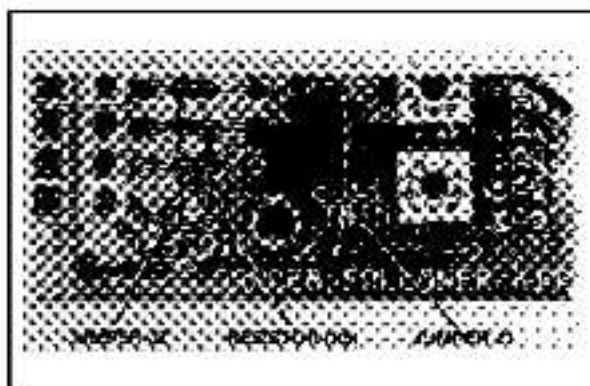

Figure 4 – Jumpers J1, J2 and Resistor (R6) on Dancer Follower Module
wiper to terminal 926. Also cut and remove jumper J2 and the 26.7K resistor (R6) on the Dancer Follower Module. Refer to Figure 4.
7. In an AUTO/MANUAL selector switch is used on the Operator Control Station, remove jumper J1 of the Dancer Follower Module. Refer to Figure 4. If the controller is to run automatically **without** manual speed control, leave J1 in place.